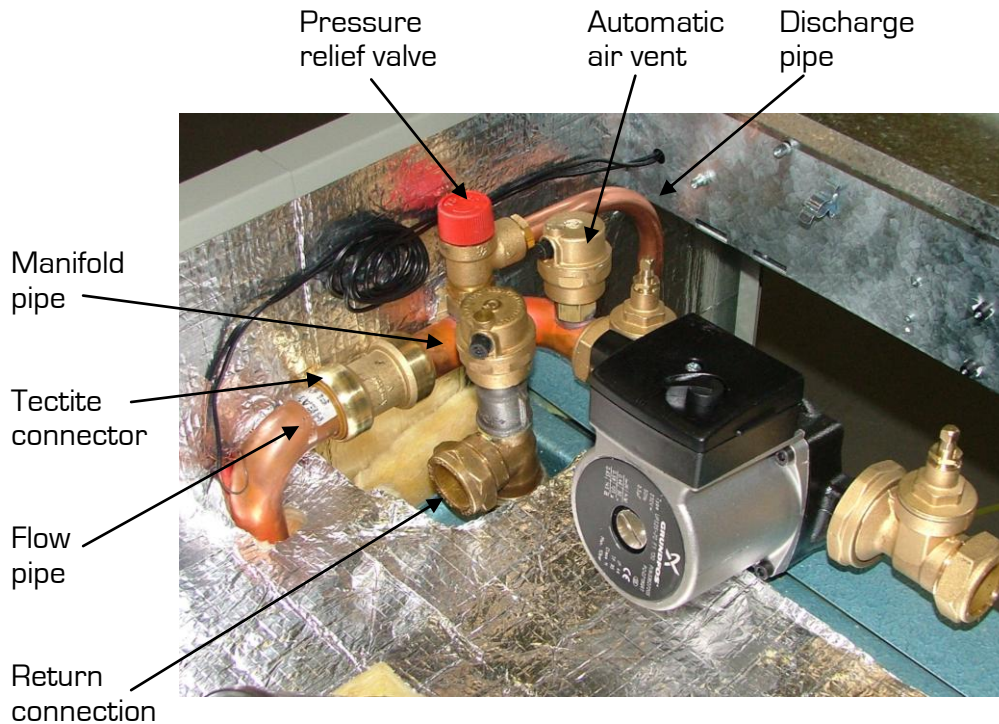

Fig.1. manifold assembly with circulating pump
10. Fit the pressure relief valve and automatic air vent onto the pipe manifold – screw them into their respective threaded sockets on the manifold pipe. Refer to Fig.1.
11. Push fit the Tectite connector on the manifold pipe on to the flow pipe. Refer to Fig.1.